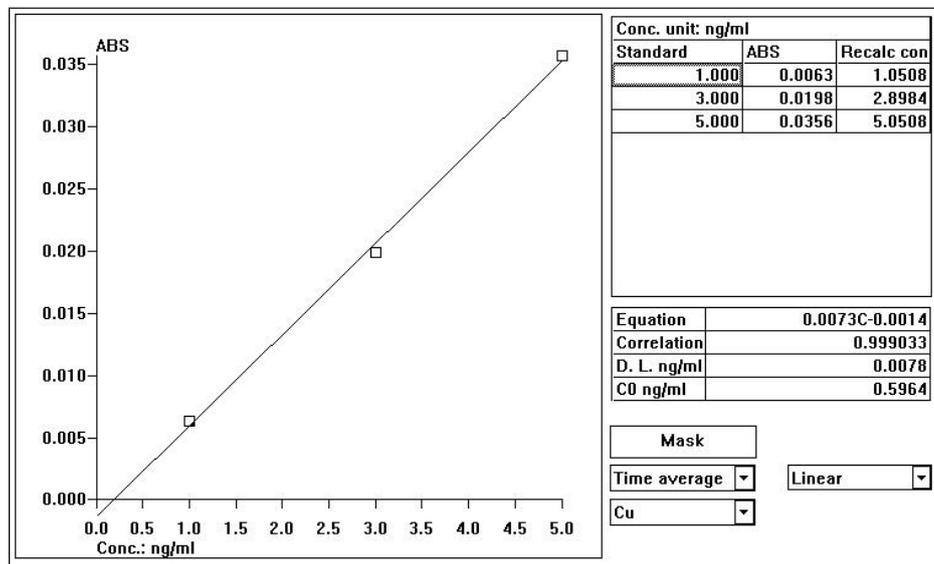

Fig. 4-30
- 5) In Fig. 4-30, “Mask” key is used to mask one of the standard points to increase the relative coefficient. The concrete method to do it is: select some of standard point witch influence the curve fitting, then click “Mask” key. If retrieving the original curve, click “Mask” key again.